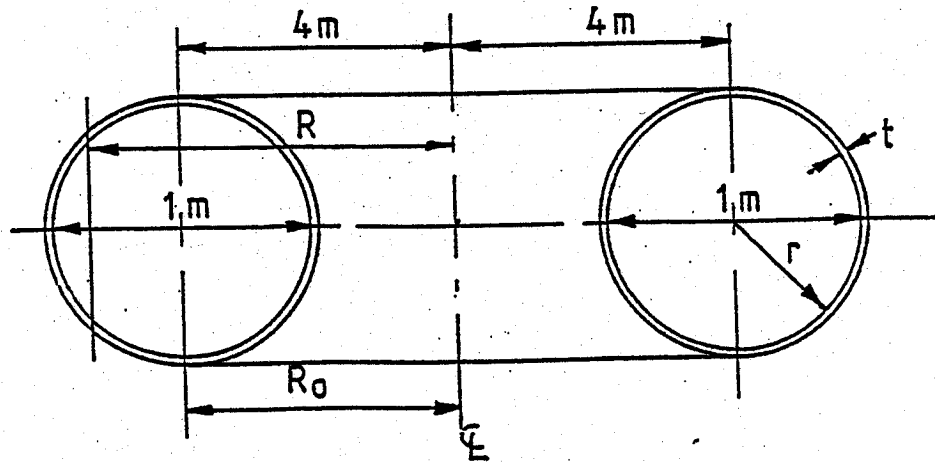

Figure 2
2. Water flows from an elevation of 500 m through a circular pipe that ends with 180° bend into the casing of a water turbine. The bend is shown in Figure 2. Derive expressions for the meridian stress, σ_m , and the tangential stress, σ_t , in the bend section at points (1), (2) and (3), in terms of R_0 , r , t and pressure p . For the dimensions given, estimate the required steel thickness for the bend under conditions of static fluid pressure. The specific weight of water is 10 kN/m³ and you may assume a factor of safety of 2.0 based on a tensile yield stress of 250 MPa. (20)